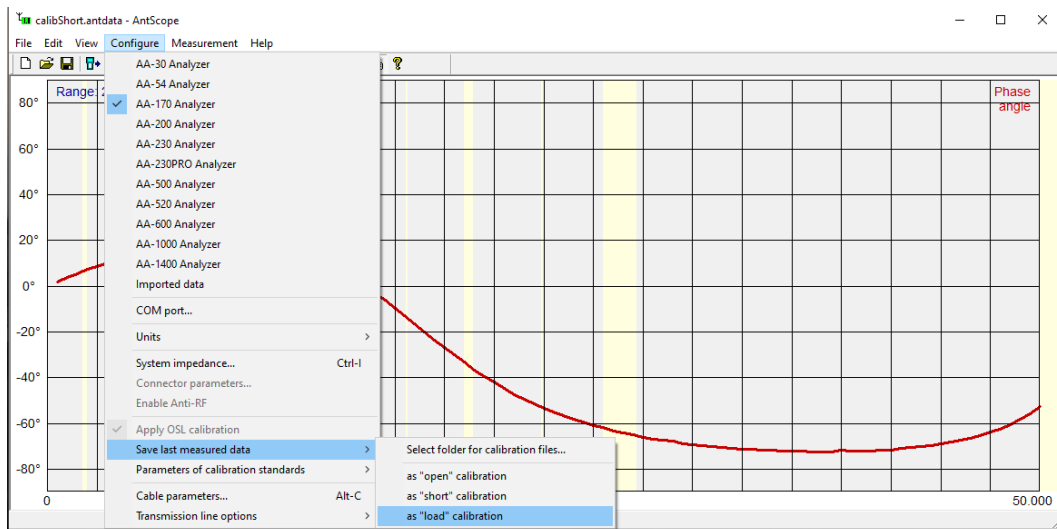

Figure 9-40: Configure > Save last measured data > as “load” calibration
3. Select **Configure > Save last measured data > as "load" calibration** as shown in Figure 9-40.